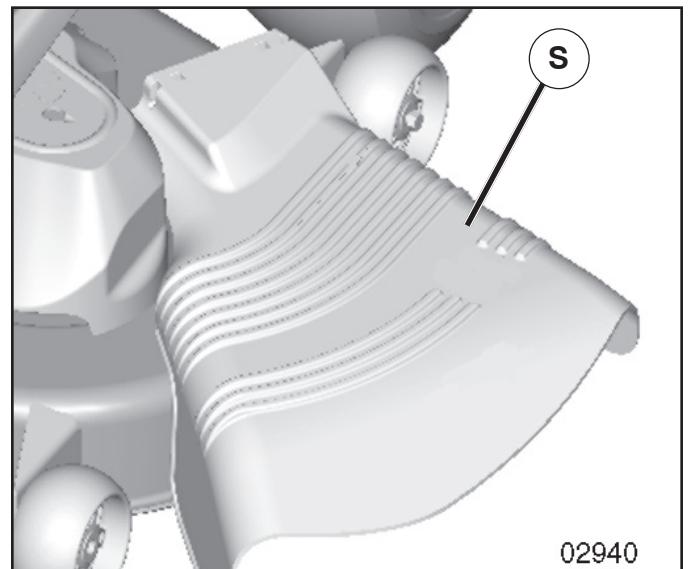

Fig. 11
CAUTION: Do not operate the mower without either the entire grass catcher, on mowers so equipped, or the deflector shield (S) in place (See Fig. 11).